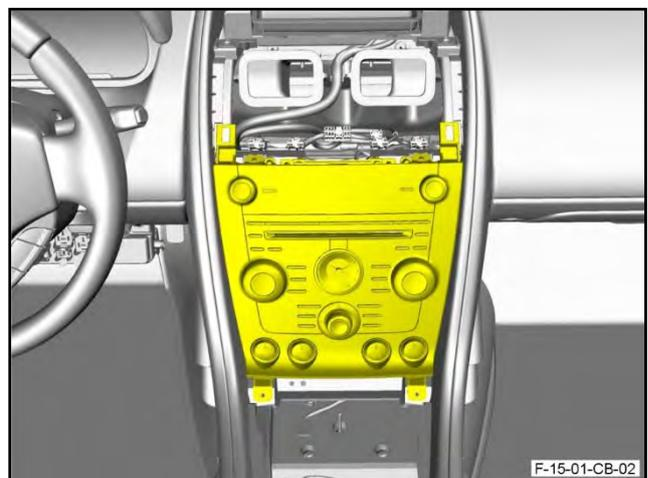

Figure 52
63. Move the centre stack assembly to get access to the electrical connectors (refer to Figure 52).